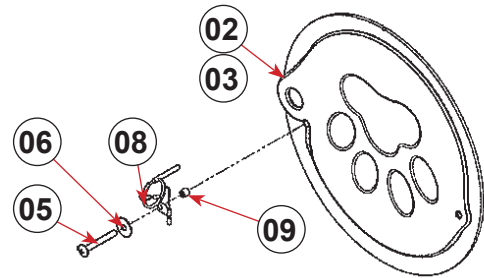

FIGURE 2.38 - Door Hinge Assembly
STEP 9: Use one of the phillips screws, one flat washer, quick release pin assembly, and one small nylon standoff spacer to secure the door stop side of door. See FIGURE 2.38